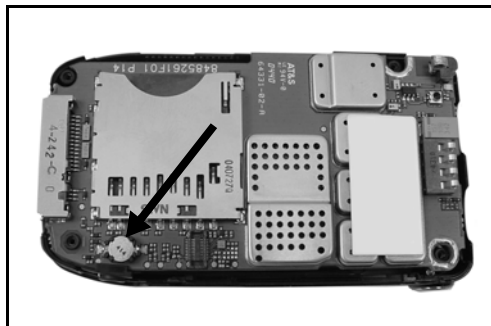

Figure 7-9.
2. Locate Coin Cell next to Audio Jack. Be prepared to contain Coin Cell which could pop away from work area when removed from holder (See Figure 7-9)